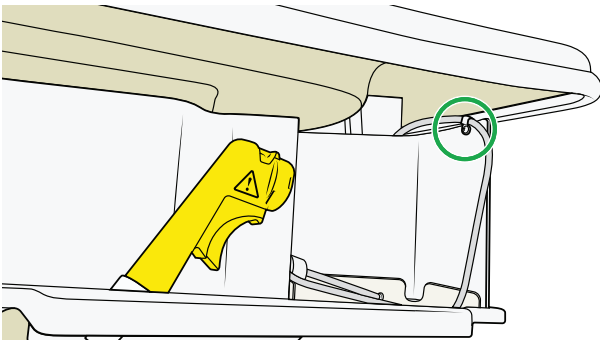

Figure 33
15. Loosen the nut and pull off the silicone hose clamp. Use a pen and mark out the position on the hose. See Figure 33.